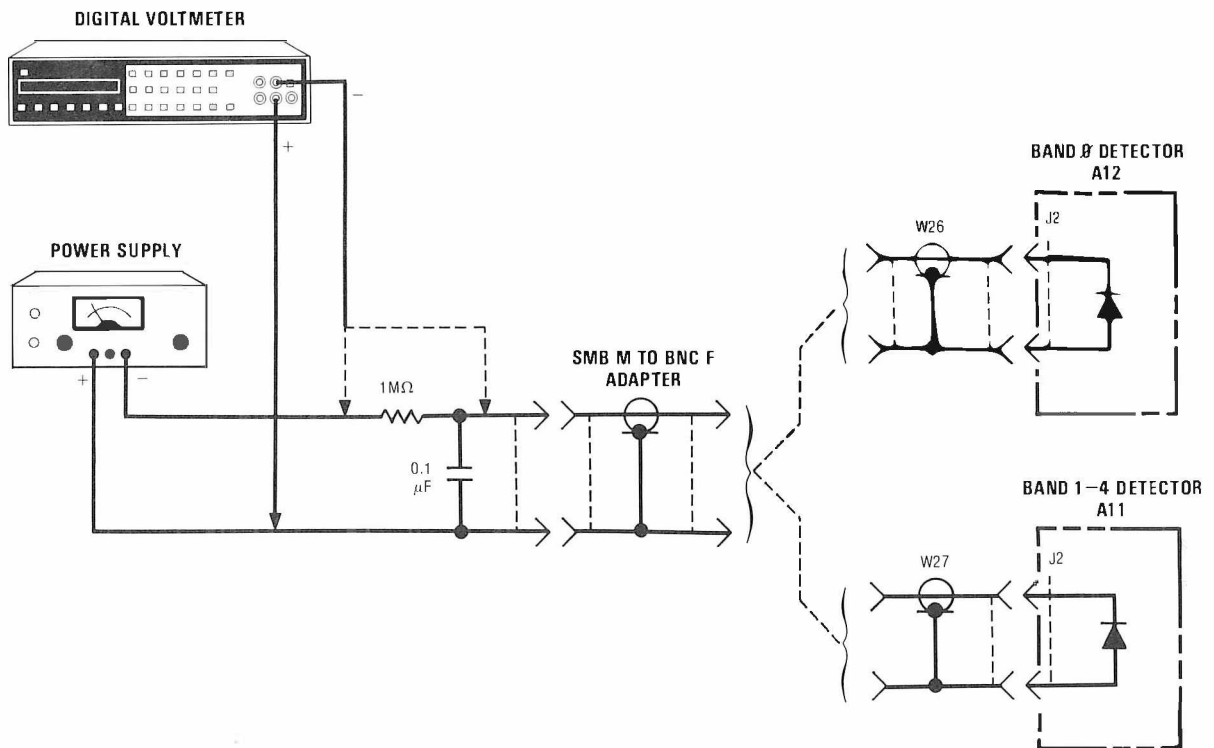

Figure 5-43. Logger Temperature Compensation Test Setup
5. Connect equipment as shown in Figure 5-43 with cable W27 connector connected to SMB-to-BNC adapter.
6. Connect the DVM across the output terminals of the Power Supply and adjust the power supply output for 5.00 ± 0.01 Vdc. Move the DVM connections back to the SMB-to-BNC adapter as shown in Figure 5-43.
10. Disconnect high band detector A11 cable W27 from SMB-to-BNC adapter and connect low band detector A12 cable W26 to adapter as shown in Figure 5-43.
11. Connect DVM at output of Power Supply and check that the output is still at 5.00 ± 0.01 Vdc. Move the DVM connections back to the SMB-to-BNC adapter as shown in Figure 5-43.